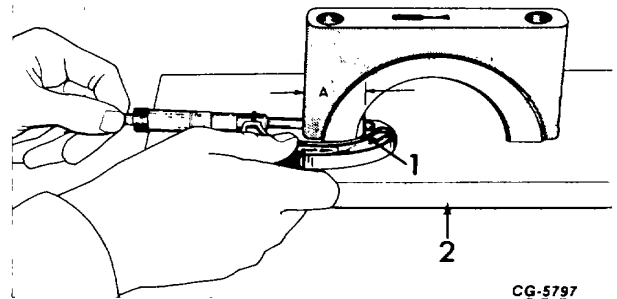

Figure 26. - Measuring Dimension "A"
3. Clamp the OLD bearing cap to a surface plate (2, Fig. 26).
4. Place a drill rod (1, Fig. 26) of any size from 6 to 13 mm (1/4 to 1/2 inch) on the inside of the cap (against notched side). Measure this distance with a micrometer as shown in Fig. 26 and record the reading.